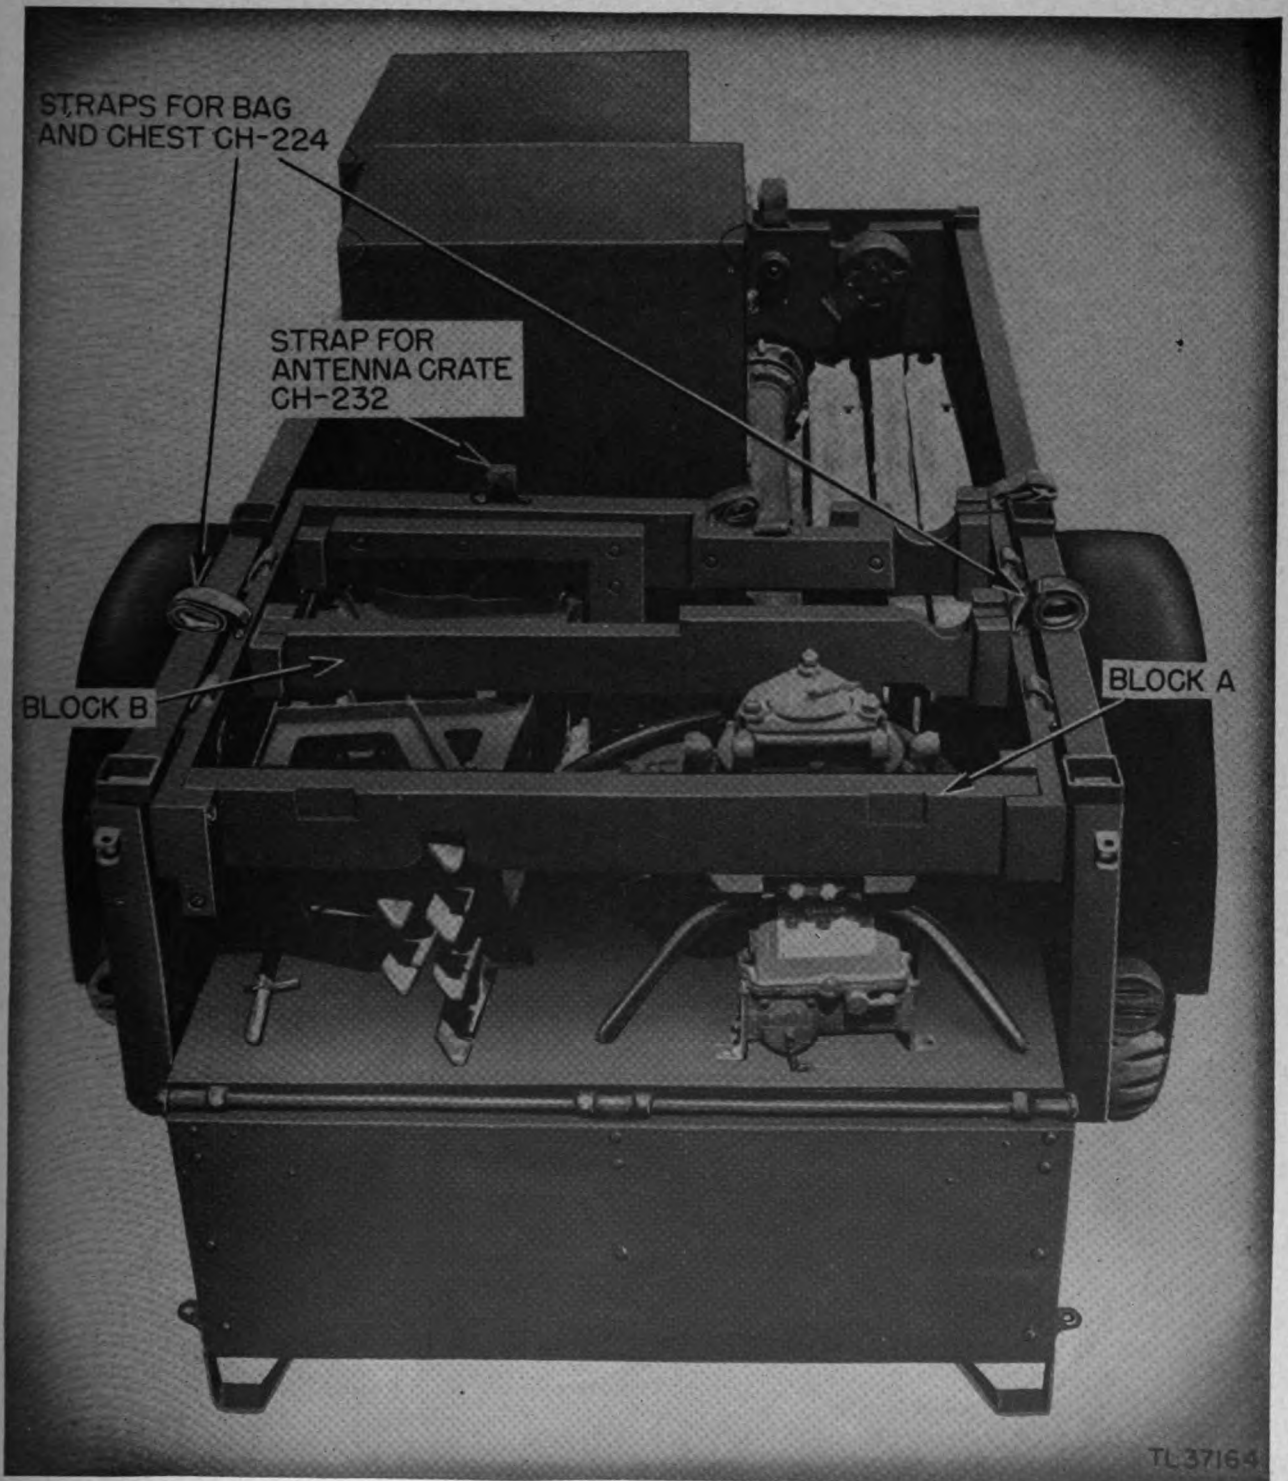

Figure 119. Blocks A and B installed.
k. Set the gearcase on the remaining free floor space at the rear right-hand corner of trailer (fig. 119).
l. Install blocks A and B in the channels provided on the blocks D and E. These sections have cut-outs to fit over the gearcase and the inner legs. This holds them in place and prevents shifting from side to side while in transit (fig. 119).